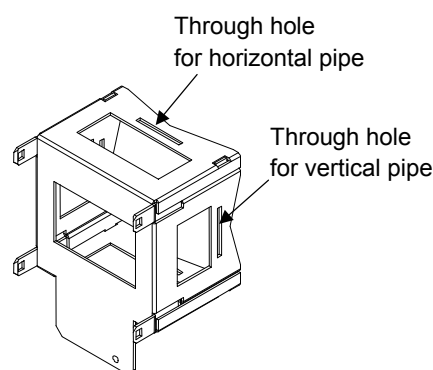

Fig 2-3-6 Fitting for pipe wrapping type
2. Insert the strapping into the through holes of the fitting for pipe wrapping type. Insert the strapping into the through holes vertically or horizontally based on the direction of the pipe. (Fig. 2-3-6)